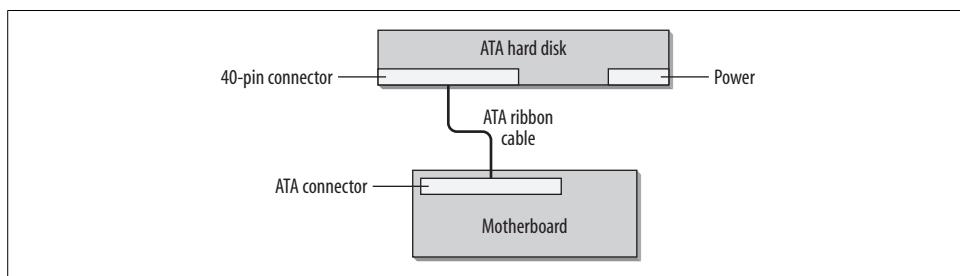

Figure 2-20. The ATA interface separated the drive and the controller.
Integrated disk electronics, or *IDE*, has had many incarnations and many names since its introduction in 1986. Originally, hard drives were small enough, in both size and capacity, to fit directly onto disk controllers. As storage requirements grew, manufacturers realized that housing drives on controller cards was an inefficient use of space. Soon drives and controllers became separate entities, connected by ribbon cable. This meant that drives could grow in size without interfering with the expandability of the motherboard. It was common for these integrated controller cards to make adjacent slots on the motherboard inaccessible. Manufacturers eventually decided that portions of the controller could be housed directly on the drives and that creating a standard drive interface would allow for both expandability and portability. Originally called IDE in several proprietary implementations, a standardized version called the *AT Attachment*, or *ATA*, was eventually ratified (although many people still use the terms *IDE* and *ATA* interchangeably). This new disk interface was called the *AT Attachment* because it was introduced with the *ISA (AT)* motherboard. It quickly grew in popularity, and today the *ATA* interface is the most widely deployed consumer disk interface. Figure 2-20 shows the *ATA* interface.